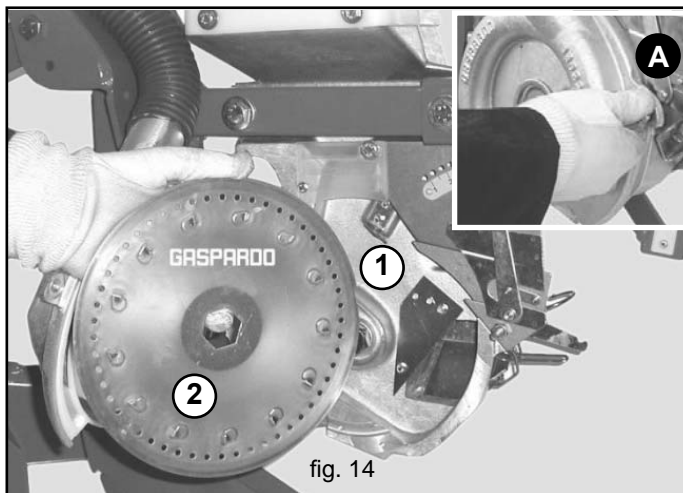

fig. 14
A disk (2, fig. 14), chosen according to the size of the seed, is assembled inside the distributors (1, fig. 14) (the seed should not enter the hole). Should suction cause some seeds to clog the holes of the disk, these will be left on the ground. The seeder is delivered to the customer with a single set of discs is equipment. The Manufacturer can supply the client with the following sets of disks (pag. 61).
- The disk must be assembled with the pegs (2, Fig.14) pointing towards the inside of the distributor.
- Hand-tighten only the winged nut that closes the cover (A, fig. 14).
- 4) Unscrew and remove the winged nut (A, Fig.14);